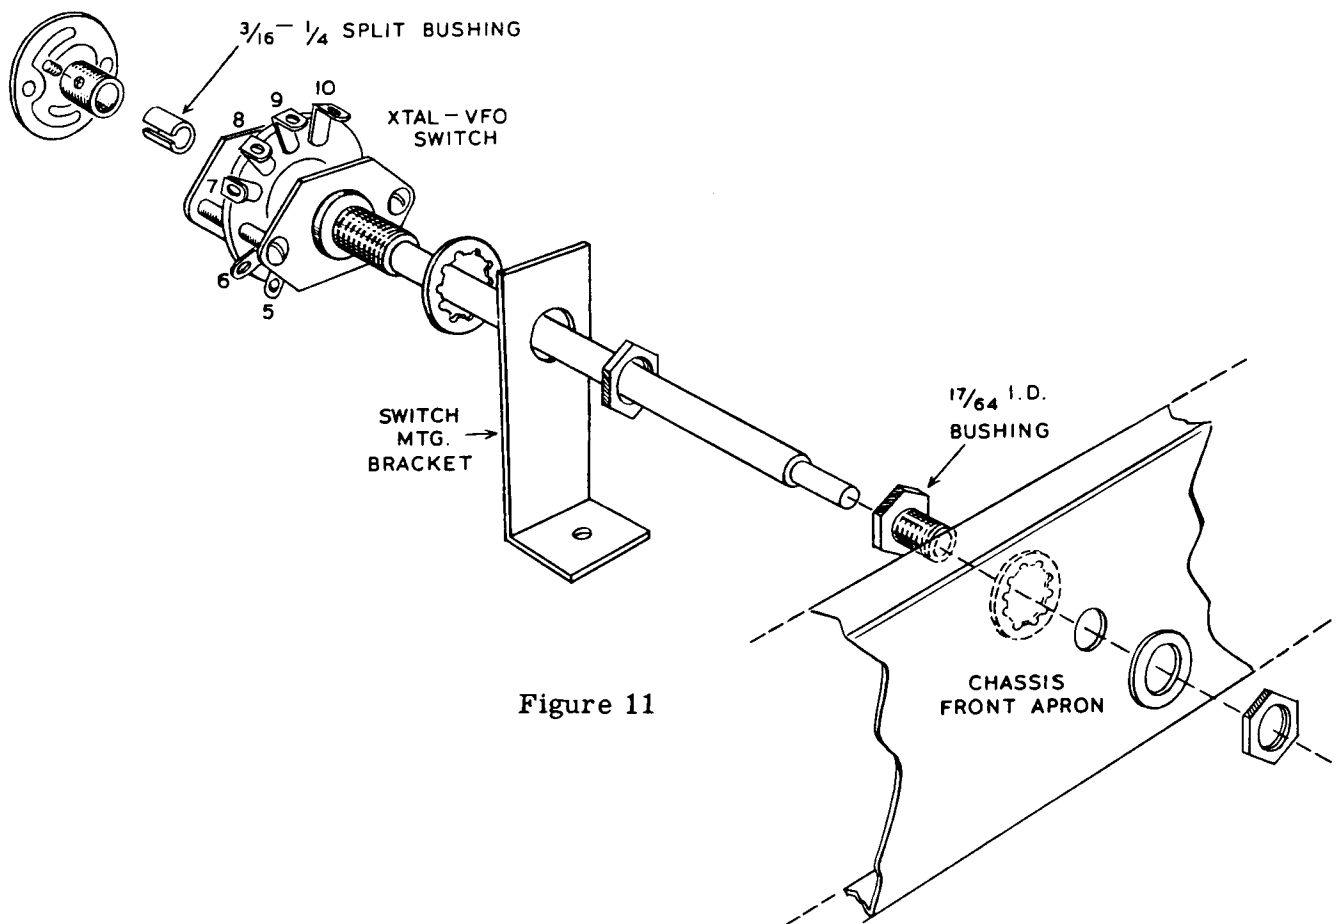

Figure 11
- () Prepare the XTAL-VFO switch for mounting by connecting two $6 \frac{1}{4}$ " blue wires to terminals 1 and 2 (S). Refer to Pictorial 7 for terminal identification.
- () For actual mounting, refer to Figure 11. While mounting the switch, guide the two blue wires through the $\frac{5}{16}$ " grommet adjacent to the switch and leave the other ends free.
- () Connect the green wire coming through the Spirashield to terminal 5 of the XTAL-VFO switch (S).
- () Strip both ends of a 4 1/4" green wire and connect one end to switch terminal 10 (S). Pass the wire through the 5/16" grommet and leave the other end free.
- () Install the mounting plate and potentiometer just in back of the XTAL-VFO switch and couple the two units together as shown in Figure 12. Use the split bushing over the switch shaft to fit the insulated coupler as indicated in Figure 11. Use 6-32 hardware to mount the plate and tighten the plate to the chassis before tightening the coupler set screws. Care should be used to prevent damage to the RF choke immediately behind the potentiometer.
- () Again, refer to Pictorial 7 and connect the free end of the 6.5 K Ω resistor to terminal 3 of the driver potentiometer (S). Position leads as shown.
- () Connect the free end of the orange wire coming from pin 6 of the 5763 socket to terminal 2 of the drive control potentiometer (S).
- () Connect a .005 μ fd disc ceramic capacitor from this same solder lug (S) to the adjacent 1-lug terminal strip (NS).
- () Connect the free ends of the green wire and the 27 K Ω resistor to the 1-lug terminal strip (S).
- () Refer now to the clamp potentiometer and the adjacent terminal strip in the upper right hand corner. The violet wire coming out of the cable at point 4 should connect to terminal 3 of the potentiometer (NS).
- () Connect a 5.55 Ω shunt resistor from terminal 3 of the potentiometer (S) to lug 3 of the terminal strip (NS). Arrange this resistor to clear the small hole in the chassis.
- () Connect a .005 μ fd disc ceramic capacitor from lug 2 of the terminal strip (S) to lug 3 of the terminal strip (NS).
- () Connect the brown and green wires at point 4 of the cable to lug 3 of the terminal strip (S).
- () Connect a 470 K Ω resistor (yellow-violet-yellow) from lug 1 of the strip (NS) to terminal 1 on the potentiometer (S).